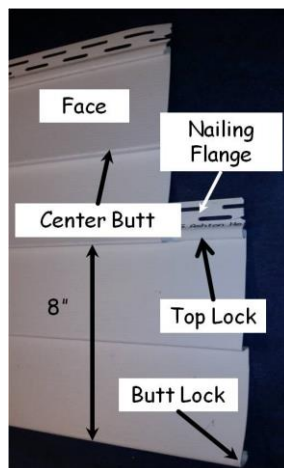

Figure 11-10. Siding Nomenclature.
3. Measure the distance from the top of the nail flange to the bottom of the top lock (see Figure 11-10). This is normally 1 1/4" to 1 3/8". Add this measurement to 8" and 40" to obtain the height of the lower and upper quality lines in Step 4, below.
3. As shown in Figure 11-10, the “Buttlock” of each course locks into the “Top Lock” of the course below.
4. On the 8s: The visible portion of each siding course is 8" high (see Figure 11-10). For each new course, snap the buttlock onto the top lock of the previous course along the entire piece. Nail the ends and middle, then measure up from the **BOTTOM** of the first course to the **BOTTOM** of the course being installed. Each measurement should be a multiple of 8 (e.g. 8", 16", 24", 32"). At each nail position, before nailing, check the measurement and adjust up or down to an even multiple of 8, and finish nailing the entire piece. Recheck as necessary and adjust the position of the nailing flange and re-nail, if required. Small adjustments can be made by tapping the nail head up or down as required. When installing the first and fifth courses, be sure the top of the siding (the nail flange) just touches the quality line previously snapped (see Section 11.1.6.4) on the wall.